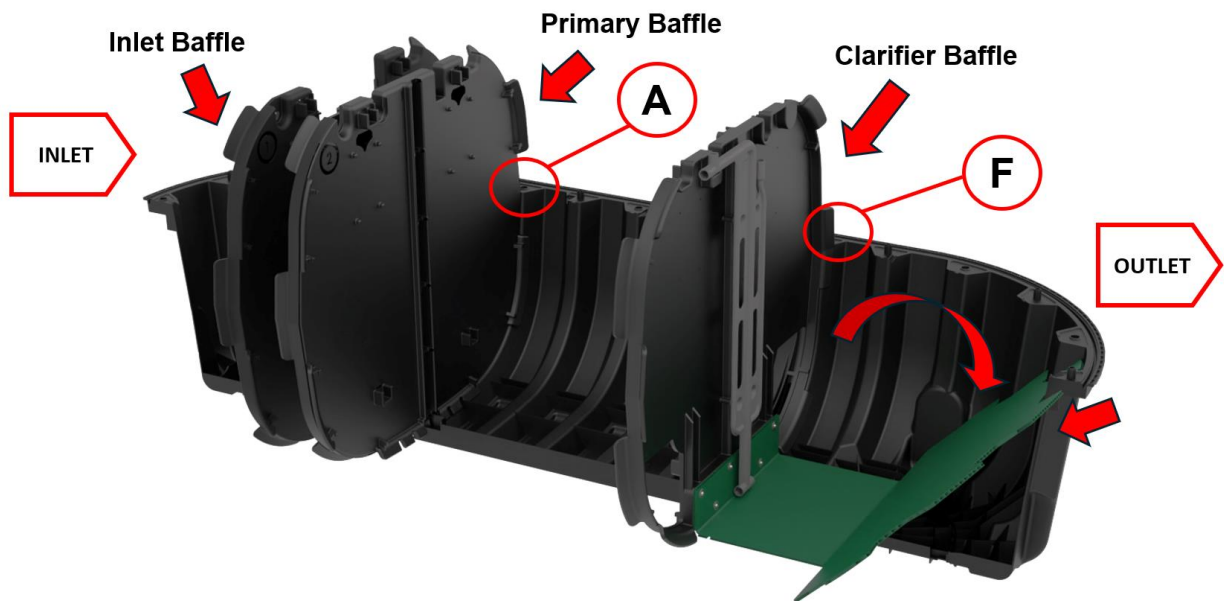

Figure 5: Baffle positions in CM-1060 Tank
- Place the baffles in the locations shown below (Figure 5)
- Clarifier Baffle** (marked as ③ at the top-right) on the rib marked **F** in the tank. Once the baffle frame is in place, unfold the sloped baffle wall aligned with the tank body mid-seam against the outlet end of the tank.
- Primary Baffle** (marked as ② at the top-left) on the rib marked **A** in the tank.
- Inlet Baffle** (marked as ① at the top-left) on the first straight rib right before the rib marked A in the tank